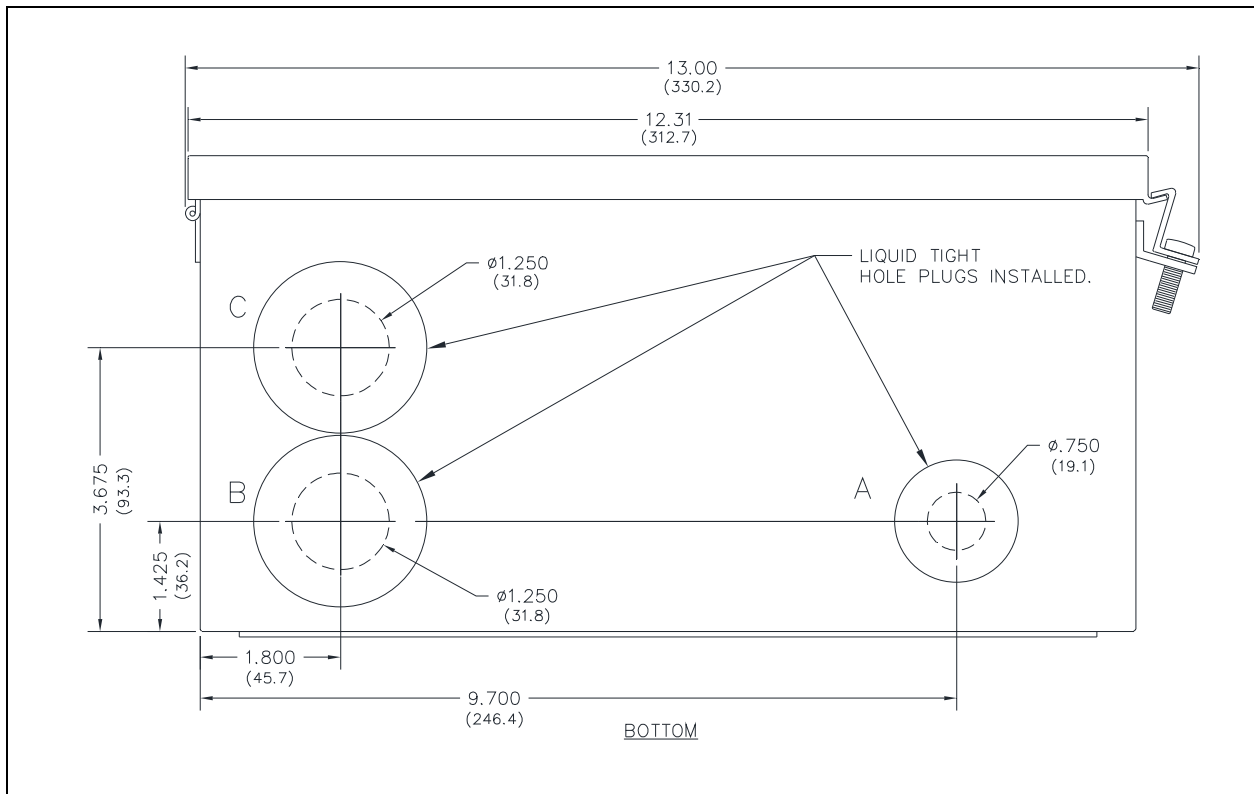

Figure 3. IP MIM Cable Entries
- GAI-Tronics supplies the Model 378-003 IP MIM station enclosure with two 1-1/4-inch holes and one 3/4-inch hole with sealing hole plugs (see Figure 3). Remove the hole plugs and install (*customer supplied*) liquid tight conduit or cable glands when connecting field wiring.
- Use entry hole **A** for ac input power wiring. Use entry holes **B** and **C** for signal/control and/or Ethernet connections (see Figure 3).